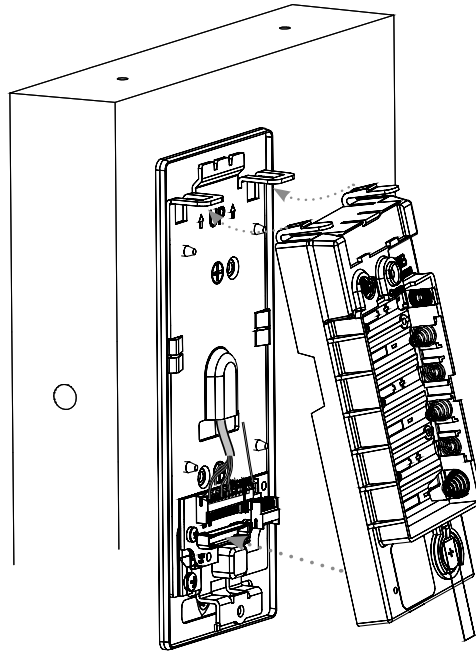

Fig. 17
1. Insert top tabs of controller into slots on mounting plate (Fig. 17).